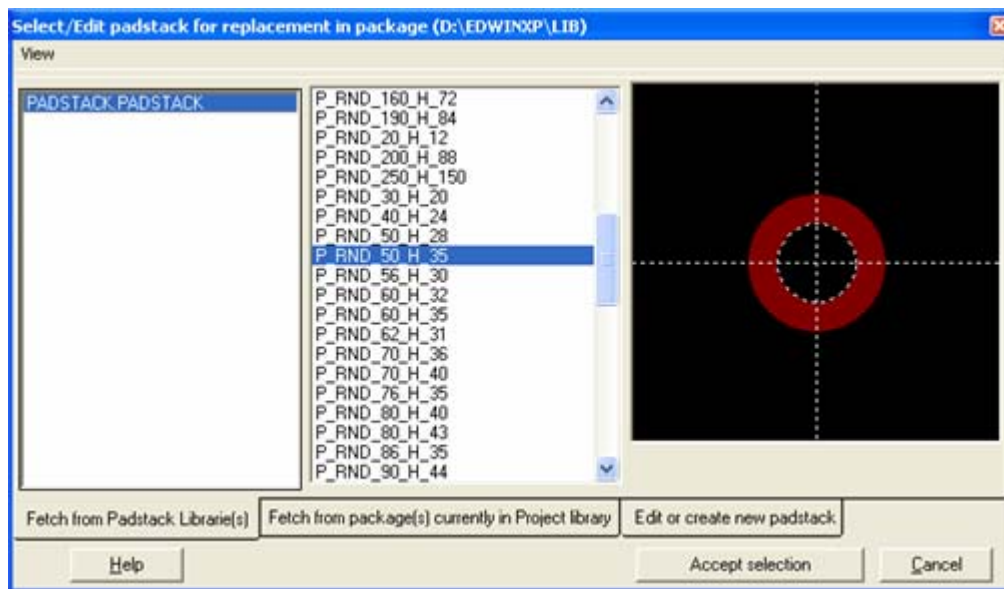

Fig. 3.15
**Padstack** and its option tool  **Select Padstack** and click on the workspace to pop up a window as shown in Fig 3.15.